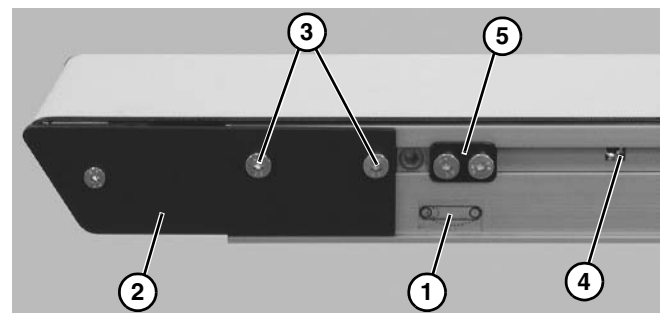

Figure 42
- On tension end of the conveyor, identified with a  label (**Figure 42, item 1**), adjust head plate assembly (**Figure 42, item 2**): On both sides of conveyor, loosen fastening screws (**Figure 42, item 3**) and rotate pinion gear (**Figure 42, item 4**) to adjust head plate assembly.
3. After adjusting proper tensioning, tighten fastening screws (**Figure 42, item 3**) on both sides of conveyor to 60 in-lb (7 Nm).
4. If equipped with cam tracking assemblies (**Figure 42, item 5**) position against head plates and adjust belt tracking. Refer to "Conveyor Belt Tracking", next section.